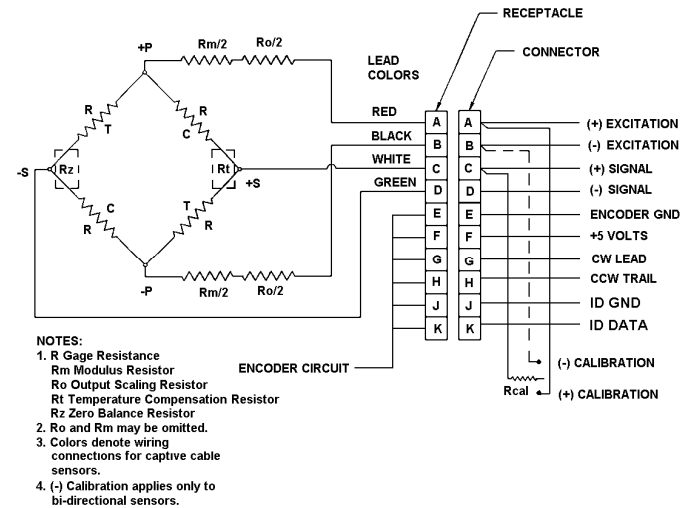

Figure 1 – Rotary Socket Wrench Transducer Wheatstone Bridge & Wiring Code
All models utilize strain gages configured into a Wheatstone Bridge Circuit to produce the primary sensing element. The four-arm Wheatstone Bridge configuration is shown below in **Figure 1**. Also pictured in **Figure 1** is the wiring code for the standard 10-pin PT receptacle.
Shunt calibration simulates the mechanical input to a transducer by unbalancing the bridge with a fixed resistor placed across, or in parallel with, one leg of the bridge. For clockwise shunt calibration, or +CAL, the shunt resistor ( $R_{CAL}$ ) is shunted across the +Excitation (A) and +Signal (C) leg of the bridge. For counterclockwise shunt calibration, or -CAL, the shunt resistor ( $R_{CAL}$ ) is shunted across the -Excitation (BD) and +Signal (C) leg of the bridge. See **Figure 1** for shunt resistor locations in the Wheatstone Bridge circuit utilized by rotary socket wrench torque transducers.